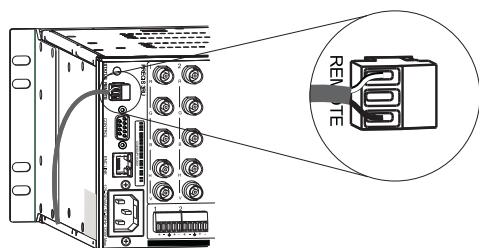

FIG. 8 Insert wires into REMOTE connector
3. Insert XNNet link cable wires according to FIG. 8 (either wire can be inserted in either outside slot).